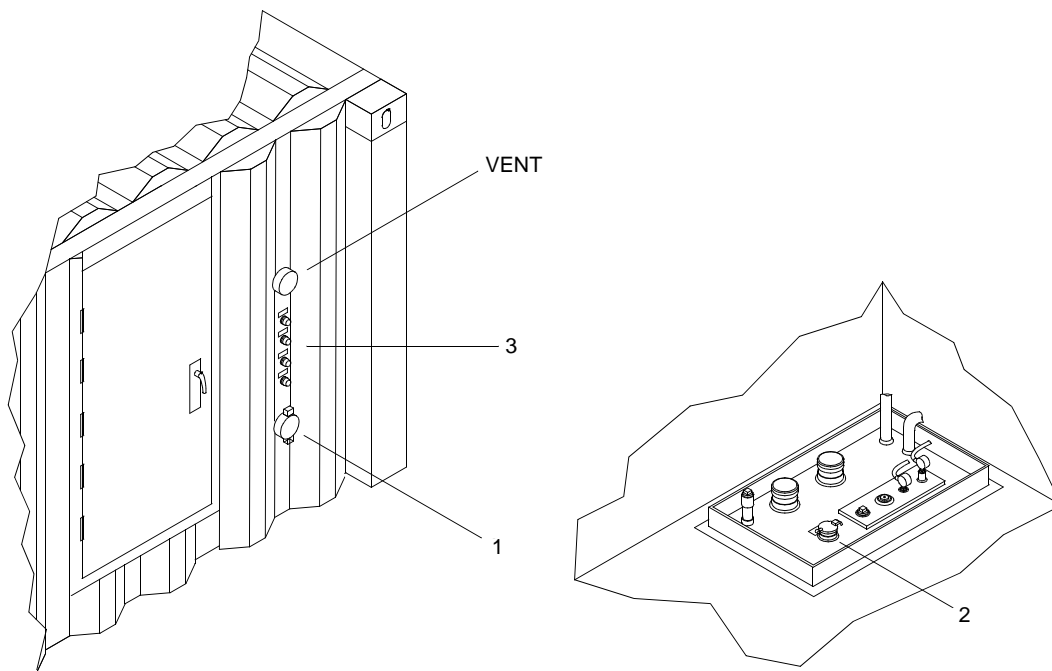

Figure 1. Generator Container Base Fuel Tank Fill Ports
3. Attach fuel nozzle to external fill port (figure 1, item 1) or internal fill port (figure 1, item 2).
4. While observing the four indicator lights (figure 1, item 3), fill tank until fuel reaches desired level.
5. Detach fuel nozzle from external fill port (figure 1, item 1) or internal fill port (figure 1, item 2).